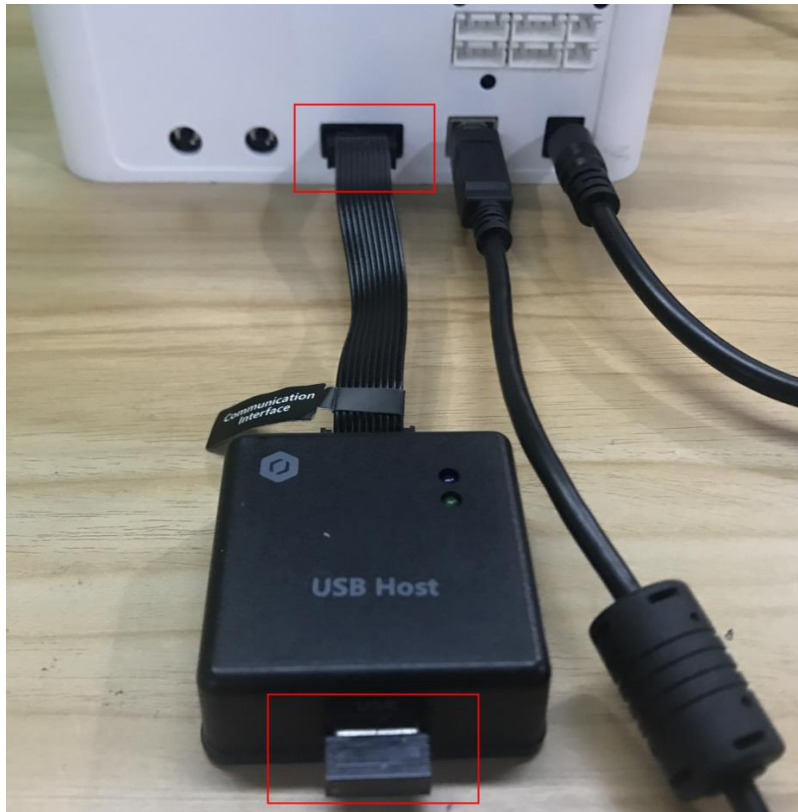

Figure 5.170 Connect with USB Host module
- Step 2** Connect the USB Host module to the UART interface on the base, as shown in Figure 5.170.